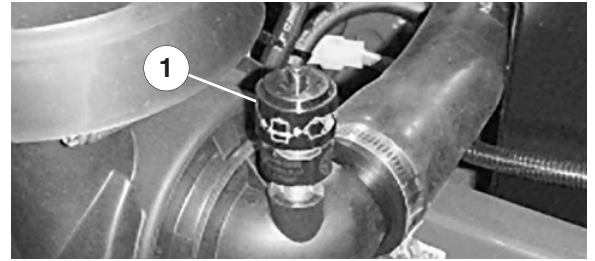

Figure 22
2. Service the air cleaner filters when the air cleaner indicator (Fig. 22) shows red or every 400 hours (more frequently in extreme dusty or dirty conditions). Do not over service the air filter.
7. Reset the indicator (Fig. 22) if it shows red.